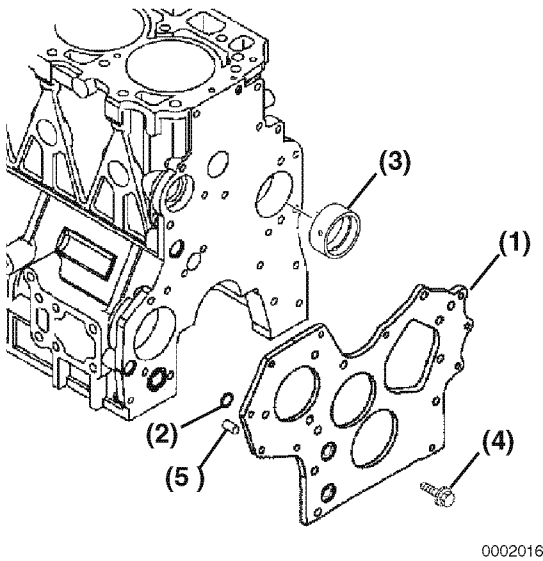

Figure 6-99
6. **TNV84 - TNV88:** Remove the O-ring (Figure 6-99, (2)) and dowels (Figure 6-99, (5)).